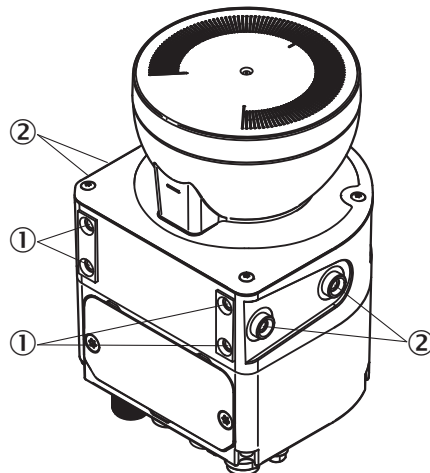

Figure 38: Mounting the safety laser scanner directly
- ① Rear M5 threaded hole
- ② Side M5 threaded hole
- ▶ Use either the rear or the side M5 threaded holes for direct mounting, see figure 38, page 65.